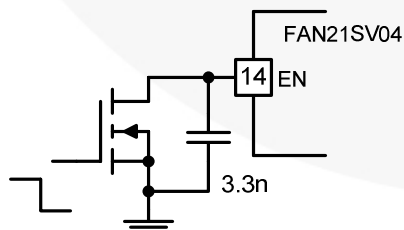

Figure 30. Enabling with External Control
FAN21SV04 has an internal pull-up to the enable (EN) pin so that the IC is enabled once V_{IN_Reg} exceeds the UVLO threshold. Connecting a small capacitor across EN and AGND delays the rate of voltage rise on the EN pin. The EN pin also serves for the restart whenever a fault occurs (refer to the *Auto-Restart* section). If the regulator is enabled externally, the external EN signal should go HIGH only after $5V_{Reg}$ is established. For applications where such sequencing is required, FAN21SV04 can be enabled (after the V_{CC} comes up) with external control, as shown in Figure 30.